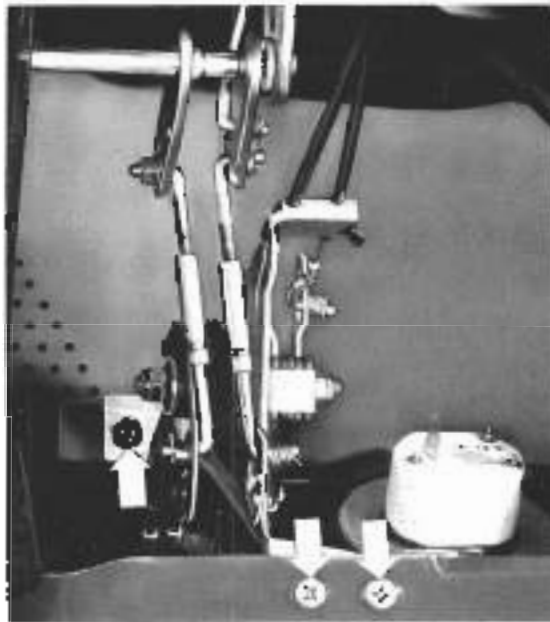

Fig. 10-3. Screws (arrows) that hold controls to dashboard
4. Remove the three Phillips head screws indicated in Fig. 10-3. Then pull the control downward, disconnect the heater cables, and remove the controls from the vehicle.